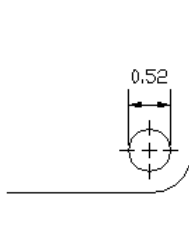

**Figure 15-21:** Dimension text is placed over the dimension line without a leader.
- ♦ **Over Dimension Line, without Leader:** Places the dimension text over the dimension line and between the extension lines, but above them, with no leader, as shown in Figure 15-21. You can move the text anywhere.